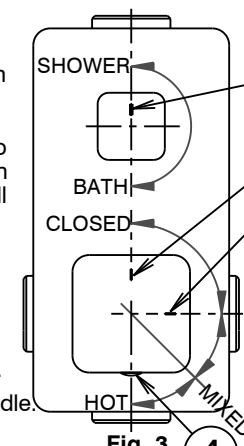

Fig. 3
- 4) Rotate the plastic insert (7) anticlockwise to the stop position. Slide the handle spacer (5) onto the plastic insert (7) until the spacer rests against the sleeve (8). Fit handle (1) onto insert (7), with the red/blue markings as shown (Fig.3), then
- 5) Rotate the plastic insert (15) anticlockwise to the stop position. Slide the hexagonal washer (13) onto the plastic insert (15) until the washer rests against the diverter sleeve (14). Fit diverter knob (12) onto insert (15) with the position marking vertically up as shown (Fig.3). Rotate the knob (12) a quarter turn clockwise (position marking indicating to the right) and depress the knob until it bottoms and there is a small gap between the knob & the cover plate (9). Now rotate the knob (12) clockwise to the stop. The position marking is now indicating the bath position (vertically down). Rotating the knob anti-clockwise to the stop will select the shower position (vertically up).